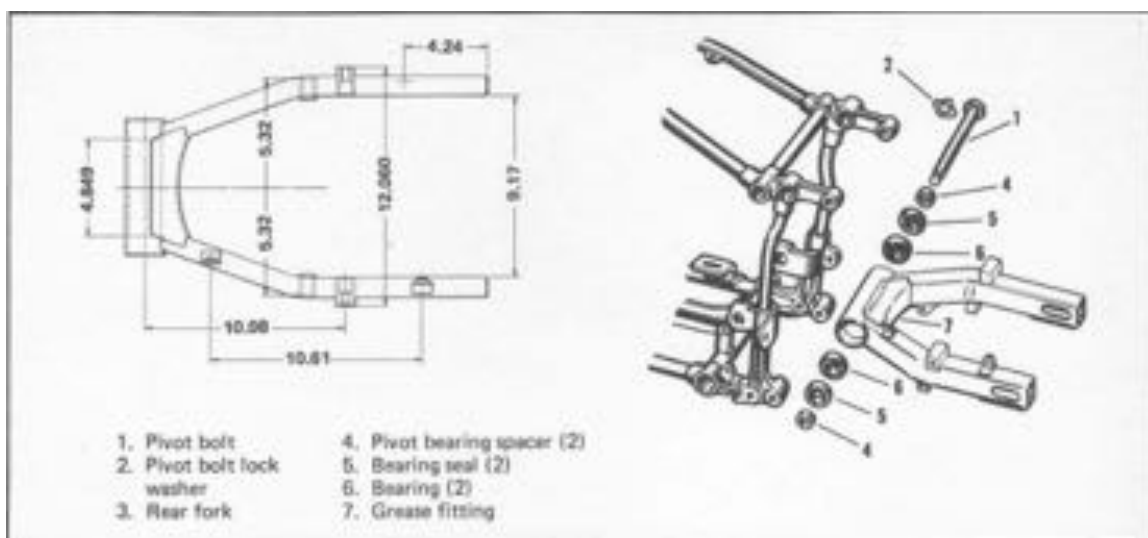

Figure 2-40. Rear Fork — Exploded View
#### DISASSEMBLING REAR FORK (Figure 2-40)
4. See figure 2-40. Turn back locking ear on pivot bolt lock washer (2) and turn out pivot bolt (1). Remove fork (3) from frame. With appropriate size arbor pin, push out bearing spacer (4), bearing seal (5) and bearing with outer race (6) from each side of fork pivot bearing.
2. Rough check the rear fork for correct alignment. Dimensions shown in figure 2-40 will provide enough information to determine if fork is far enough out of alignment to require realigning or replacement. Straightening a badly bent fork requires special tools and fixtures for holding bending and gaging.